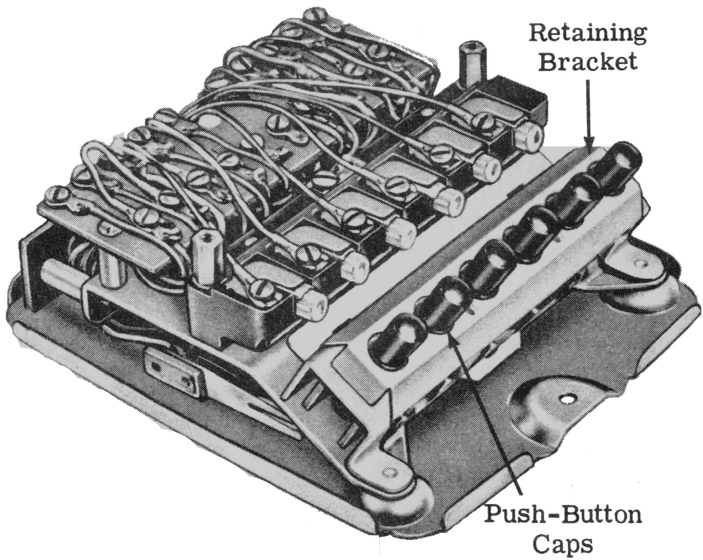

Figure 2. Key Assembly Showing Retaining Bracket and Push-Button Caps
- (1) Remove the two screws from the top of the adapter and remove the housing cover.
- (2) Unclamp and remove the retaining bracket (Fig. 2) from the key row.
- (3) Remove the push-button cap (Fig. 2) from each key.